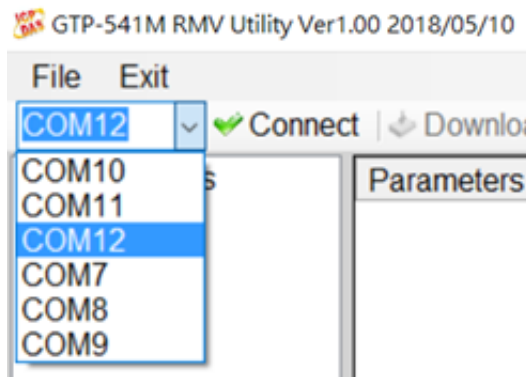

Figure 6.2.1
1. Select the COM Port number of RS-232 / RS-485, as shown in Figure 6.2.1.